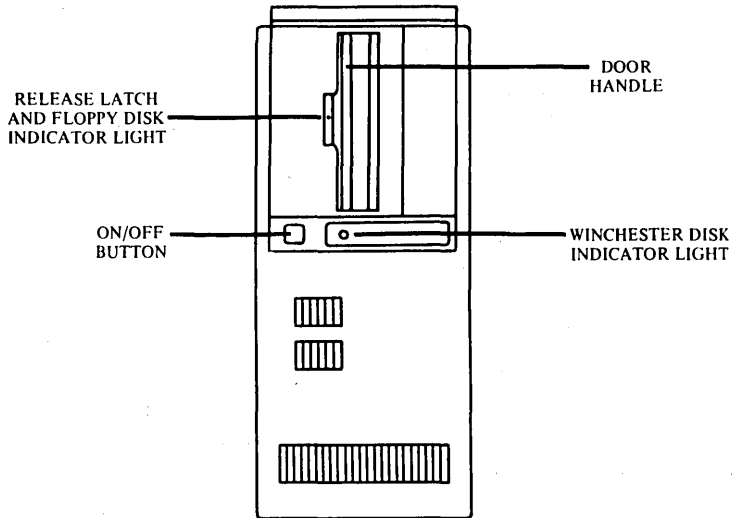

Figure C-2. B 22 Disk Drive
- Figure C-2 illustrates the B 22 disk drive.